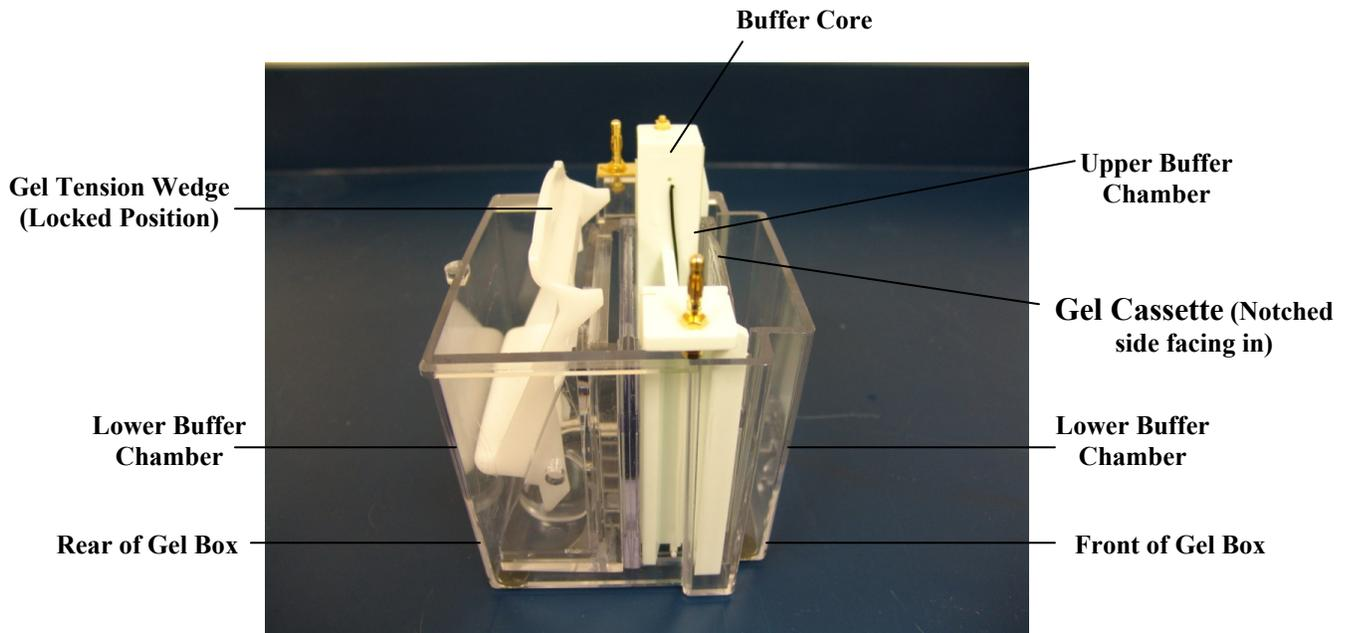

Figure 2: Assembled Gel Box Side View
- 8.1.9. Slide Gel Tension Wedge into the lower buffer chamber behind the buffer dam (or behind second gel) with the tapered end pointing up. See Figure 2.
- 8.1.10. Pull forward (toward the front of the unit) on the Gel Tension Lever until lever comes to a firm stop and the gels or gel/buffer dam appear snug against the buffer core. See Figure 2.
- 9.2. Figure 2: Assembled Gel Box Side View